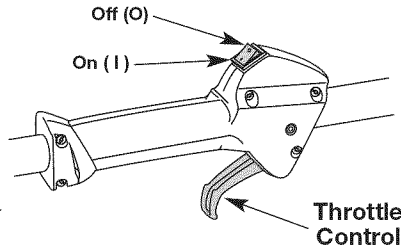

Fig. 6
**NOTE:** There is no need to turn the unit on. The On/Off Control is in the ON (I) position at all times (Fig. 6).
2. Press and hold the On/Off Control in the OFF (O) position until the engine comes to a complete stop (Fig. 6).